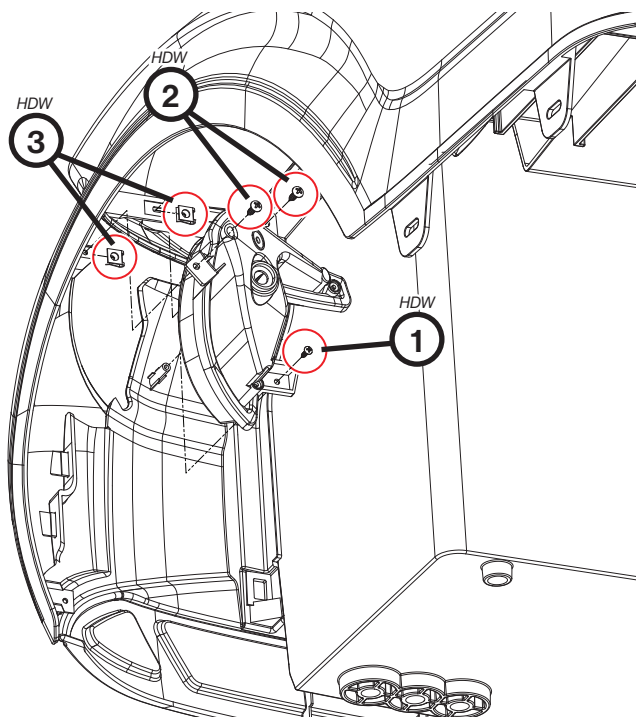

Fig. 9
Install two (2) clip nuts (HDW 3) to the inside of each side panel as shown in Fig. 9. Use two (2) M5 screws (HDW 2) and tighten with T25 Torx socket. Secure each taillight to the assembled rear body using one (1) M4 self-tapping screws (HDW 1). Tighten with T20 Torx socket.